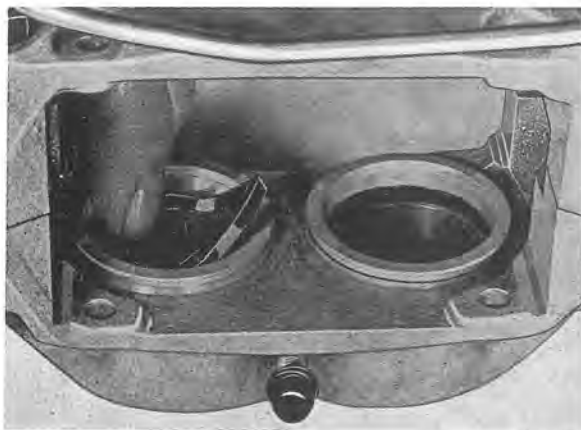

Fig. 5-23. Installing sealing ring
2. Fit new sealing rings in the cylinders, see Fig. 5-23.
2. Fit the new sealing rings in the cylinder, see Fig. 5-23.